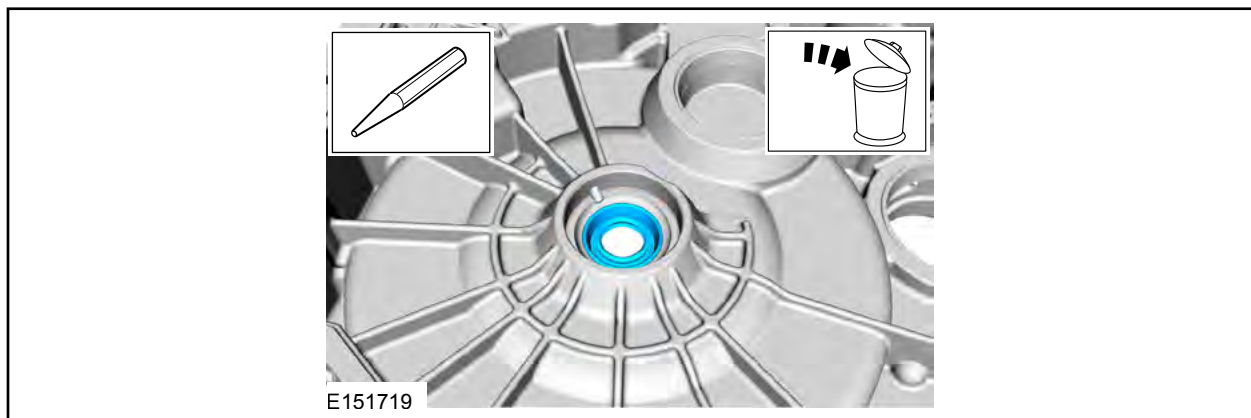

FIGURE 8
5. Remove and discard the input shaft oil seal. See Figure 8.